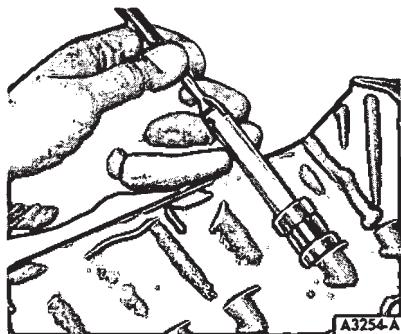

FIG. 28—Removing Valve Lifter
6. Using a magnet, remove the valve lifters and place them in a rack so that they can be installed in their original bores (Fig. 28).
5. Using a magnet, remove the valve lifters and place them in a rack so that they can be installed in their original bores (Fig. 28).